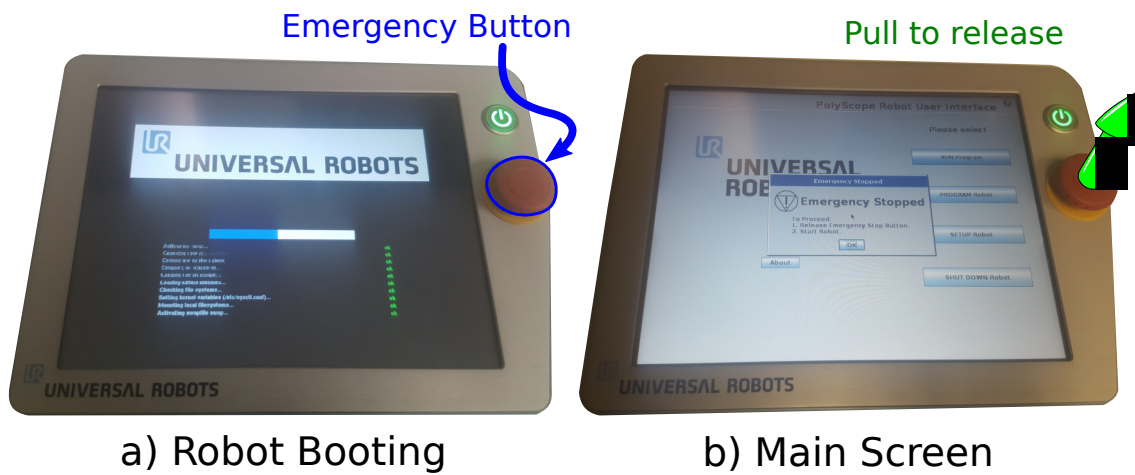

Figure 2.2: Main Screen
3. During operation, there should be **ALWAYS** one person holding the *teach-pendant*, see Fig. 3.1 c). This person should keep the eyes on the robot and one hand on the *Emergency Button*, see Fig. 2.2 a). Please, don't be distracted during robot operation!!!
2. Wait until the robot finish the booting process and the Main screen is shown in the *teach-pendant*, see Fig.2.2 b).
3. If the robot was properly shutdown, then the main screen will show a message "Emergency Stopped". Release the emergency button (red button see Fig. 2.2) by pulling it.